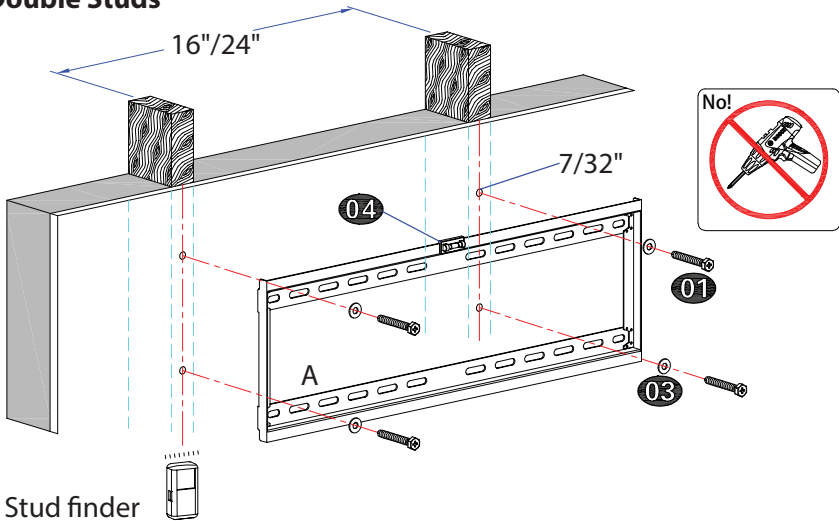

Figure 2 (keep the Wall plate level)
If you mount TV mount into wood studs, pre-drill the mark 4 holes using 7/32" drill bit to a depth of 2.5", fix Wall plate (A) to the wall with lag bolt 01 and washers 03. (Figure 2)